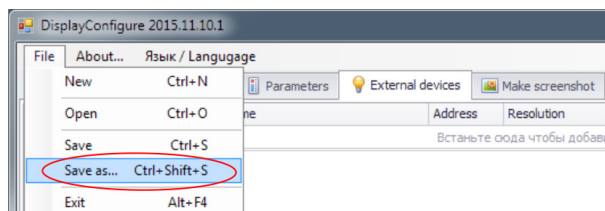

Fig.64. Save configuration file.
- select *File menu/Save as* in the DisplayConfigure (Fig.64);